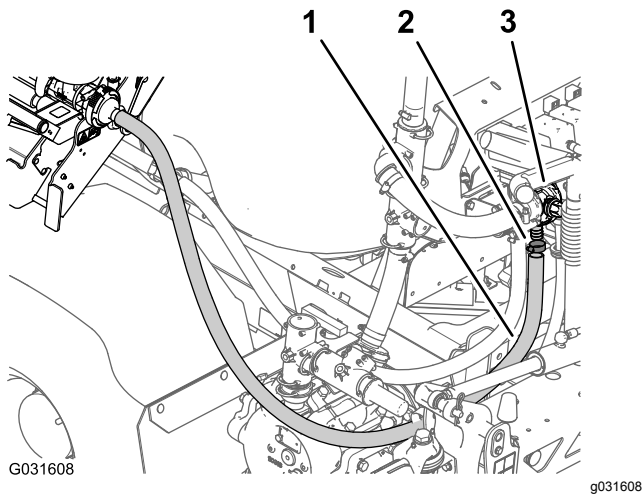

Figure 36
7. Remove the hose clamp that secures the eductor-supply hose to the barbed fitting of the eductor-control valve (Figure 36).
8. Remove the hose from the eductor-control valve (Figure 36).